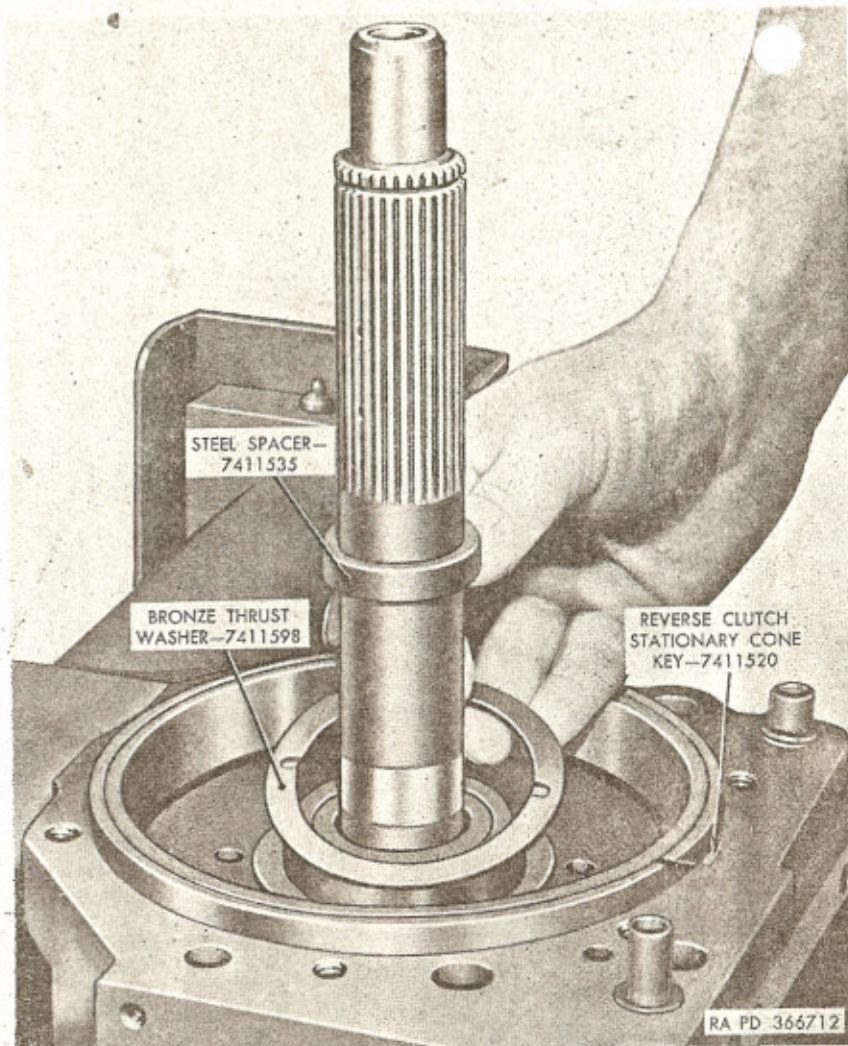

Figure 33. Removing or installing reverse carrier spacer and internal gear thrust washer (303M).
j. Remove reverse carrier steel spacer (fig. 33) and reverse internal gear rear thrust washer from transmission output shaft.